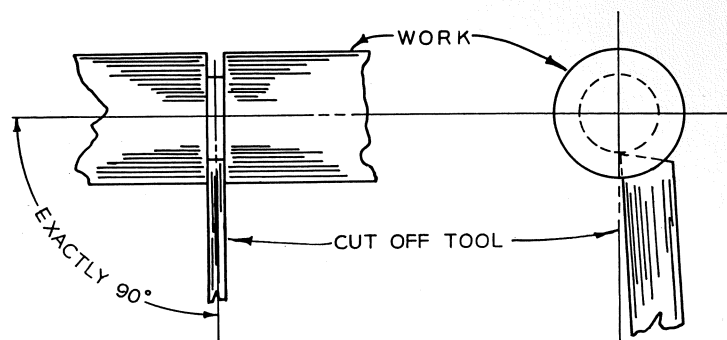

FIG. 190
Quick, clean cutting-off requires careful machining and a properly ground tool. The cut-off tool must be set into the work at an exact right angle and with the cutting edge on dead center (see Fig. 190).
1. Set the cutting edge of the tool on the lathe center line—the tool blade should be at an exact right angle with the work (Fig. 190).